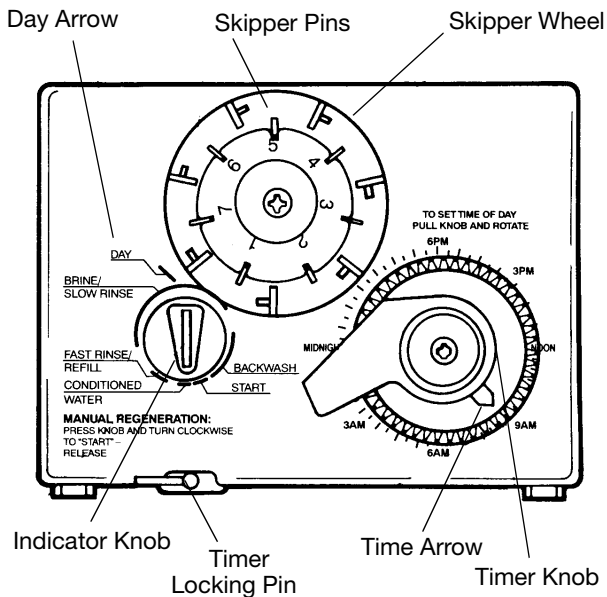
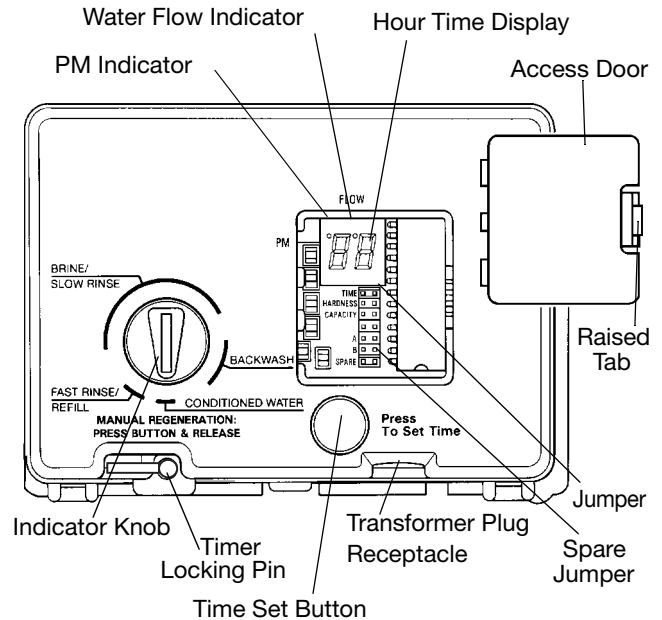

Figure 5
Figure 6
Note: The following steps will require turning the indicator knob (Figure 5 and Figure 6) to various positions. Manually rotate the camshaft **COUNTERCLOCKWISE** only until indicator knob points to desired position. (See manual regeneration sections for each control's manual operation.)
- Set days of regeneration on skipper wheel (Figure 5).
Note: The Timer Locking Pin should always be horizontal (Figure 5) during operation.
Open the access door by pushing the raised tab on the door toward the left while pulling the tab out (Figure 6).
Note: The Timer Locking Pin should always be horizontal (Figure 6) during operation.
When abnormally high water usage exhausts your water conditioner's capacity ahead of schedule, an extra regeneration can be achieved. Depress the indicator knob on the 440i (Figure 5) with a wide-blade screwdriver and turn **COUNTERCLOCKWISE** to **START** to initiate a regeneration. For the 460i, simply depress the indicator knob (Figure 6). It will take a few minutes for regeneration to start. A normal regeneration will take approximately two hours.
Electricity is used only to run the control and to rotate the camshaft. All other functions are operated by water pressure. Therefore, in the event of a power outage, all the regeneration positions may be dialed manually by depressing the indicator knob and turning **COUNTERCLOCKWISE** (Figure 5 and Figure 6). The following cycle times should be used for proper regeneration: